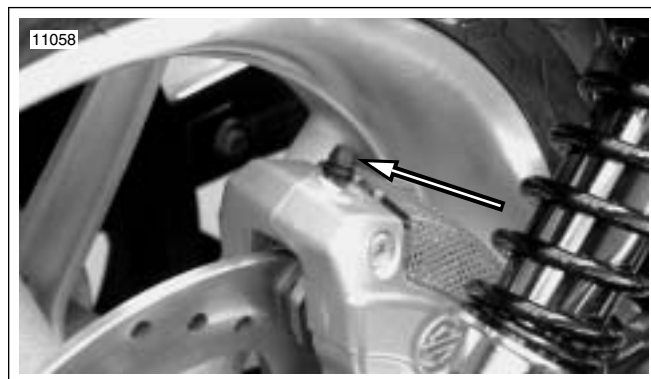

Figure 1-34. Rear Brake Bleeder Valve
- b. Rear brake bleeder valve-see Figure 1-34.